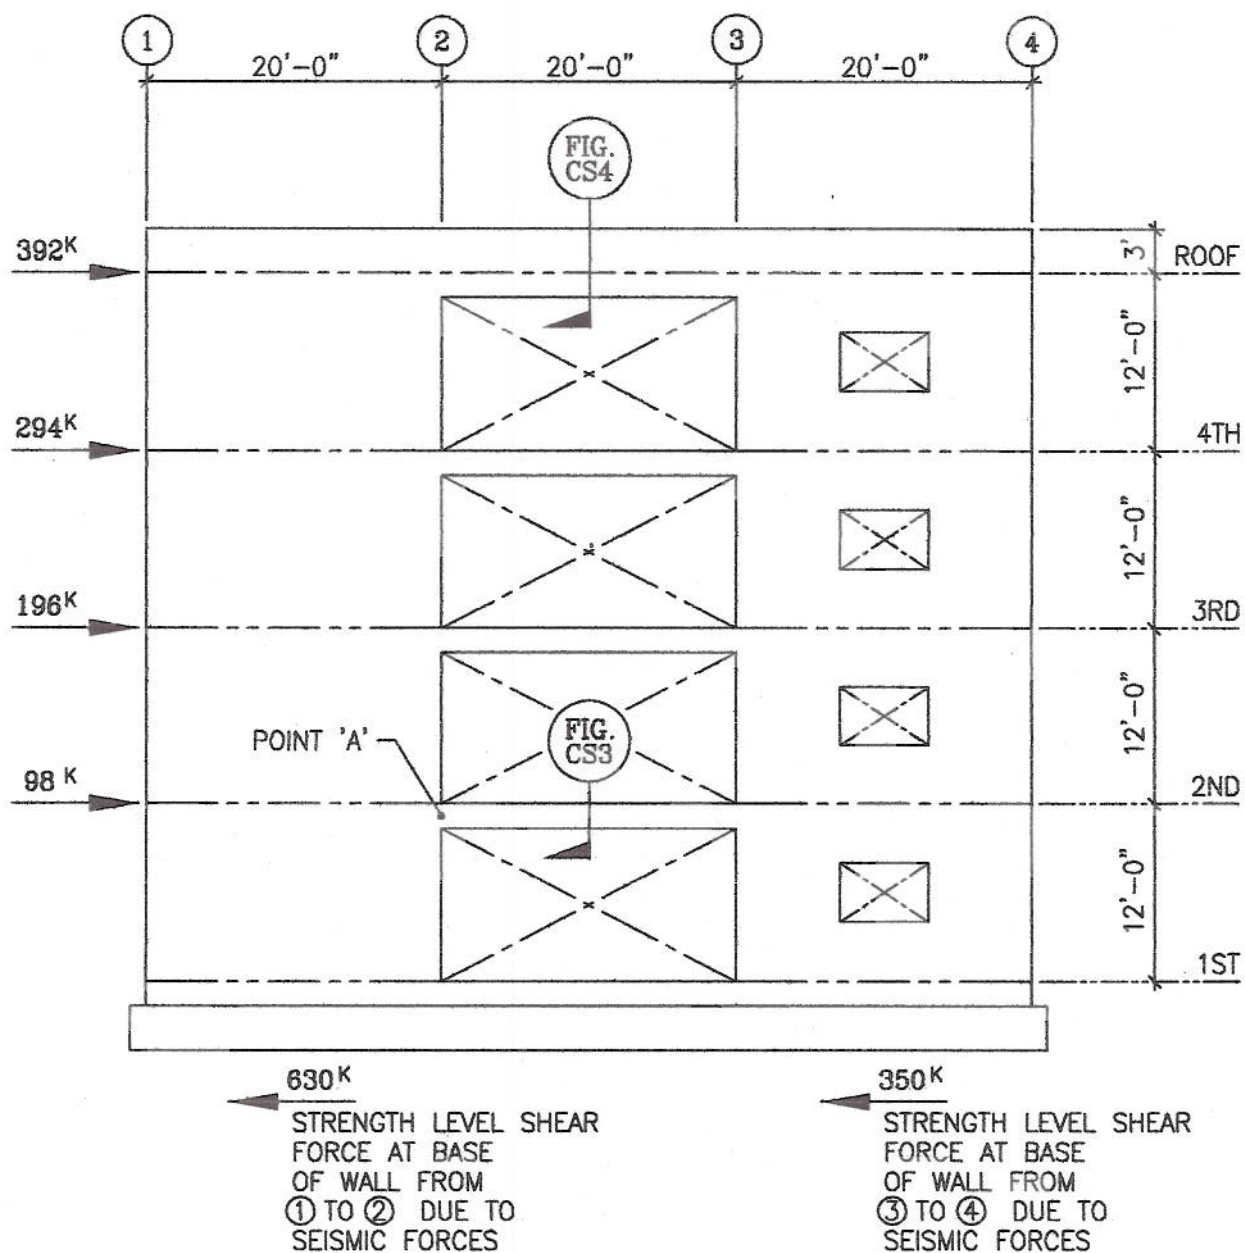
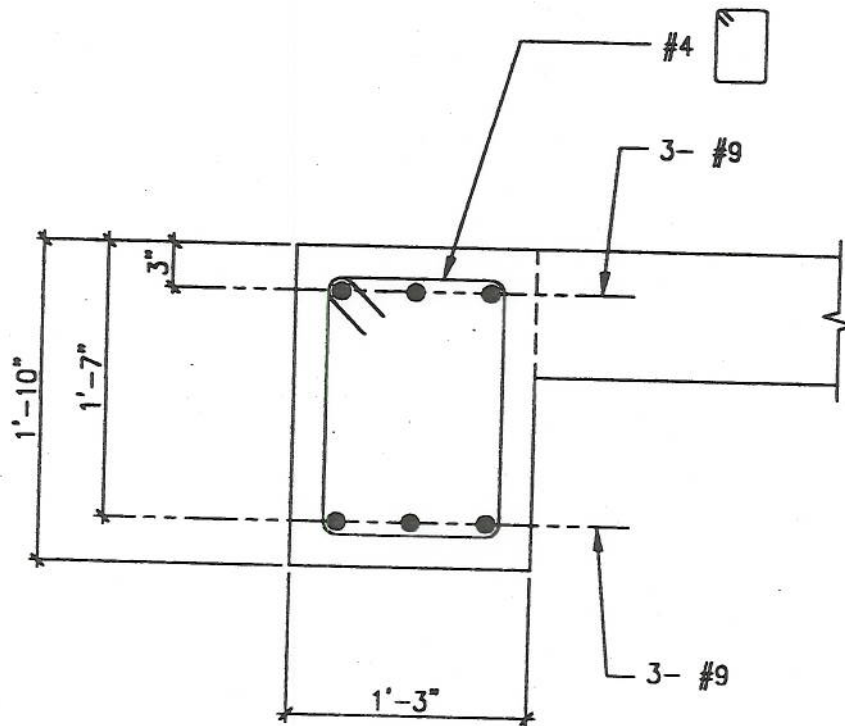

FIGURE CS2
FIGURE CS3
1. The strength level seismic story forces and the base shear to the wall on Line D are shown in Figure CS2. Calculate the maximum strength level drag force at each end of the fourth floor beam. (21 Points)
3. For the drag beam shown in Figure CS3, verify that the longitudinal drag beam reinforcement is adequate at Point "A" as shown in Figure CS2. Use the assumptions shown below. (Ignore compression reinforcement). **(21 Points)**
4. Calculate the longitudinal straight bar development length of all bars into the shear wall at Point A shown in Figure CS2. Detail the top and bottom longitudinal bars on the elevation on the Figure in your Solution Booklet for Problem D1. **(21 Points)**